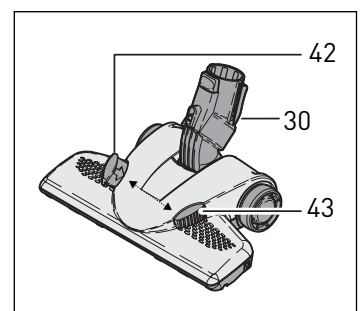

Figure 14
Kombi nozzle - Figure 14
The Kombi nozzle (30) is adjustable for carpet or hard floors. To set for carpet, slide the up arrow button (42) to the right until it clicks into place. The hard floor dusting brush will raise up allowing the head to move over the carpet. To set for hard floors, slide the down arrow button (43) to the left until it clicks into place. The brush will lower to gently sweep your floors. **The slider in Figure 14 is set in the position for hard floors.** The brush should be cleaned regularly. Remove the Kombi nozzle from the telescopic tube to clean. Fibers and hair can be pulled out of the bristles manually, or vacuum the bristles with with the telescopic tube. The brush strip is removable for cleaning and replacement.